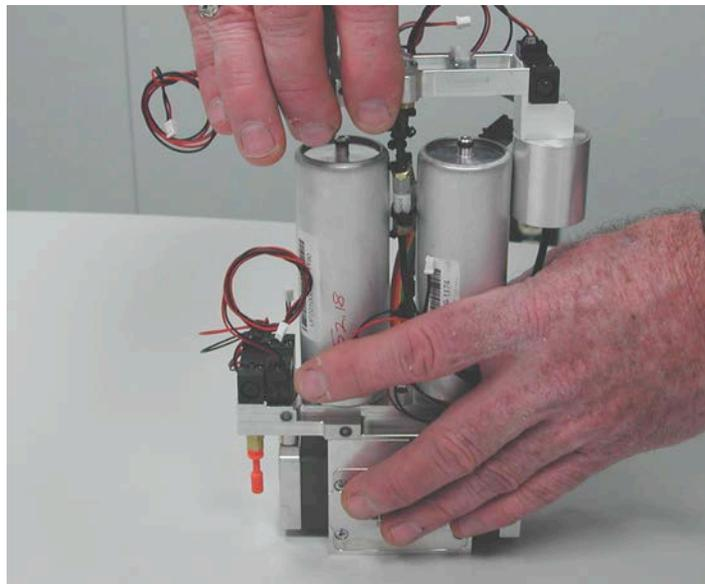

Figure 5.22
- While holding the adsorbent beds, gently pull up on the product manifold to remove from top of product manifold. (Figure 5.22)